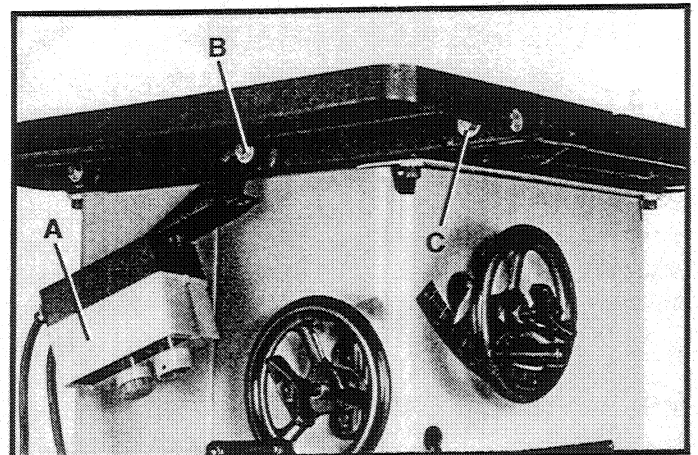

Fig. 5
1. The on/off switch (A) Fig. 5, is shipped attached to a mounting bracket at the left side of the machine.
2. Remove screw and flat washer (B) Fig. 5, that is holding the switch and bracket to the machine. Remove the switch from the side of the machine. **Replace screw and flat washer (B).** **WARNING: DO NOT REMOVE SCREWS (B) AND (C) AT THE SAME TIME.**
3. Remove screw and flat washer (C) from the underside of the extension table at the front of the saw.